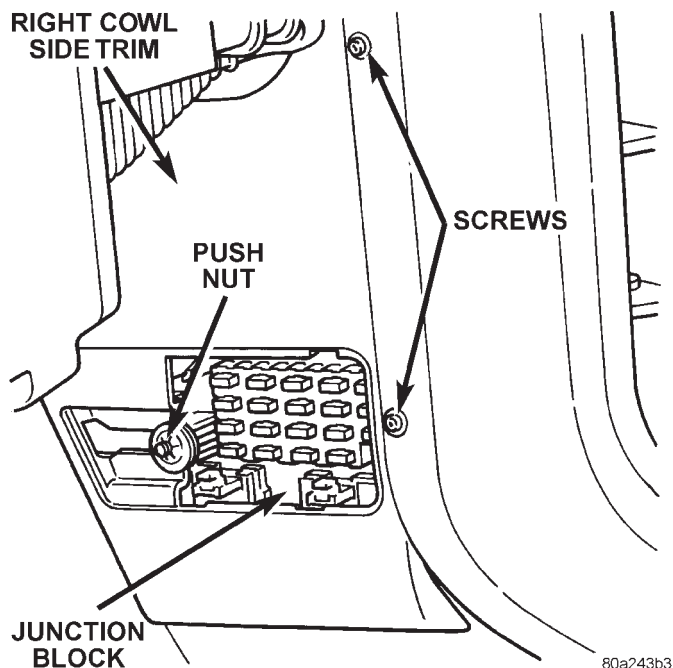

Fig. 22 Right Cowl Side Trim Panel Remove/Install
(3) Remove the push nut that secures the right cowl side trim panel to the junction block stud (Fig. 22).